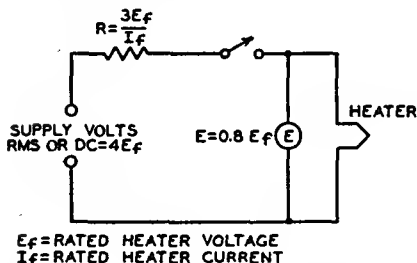

Fig. 94—Test circuit for measuring heater warm-up time.
**Heater warm-up time** is defined as the time required for the voltage across the heater to reach 80 per cent of the rated value in the circuit shown in Fig. 94. The heater is placed in series with a resistance having a value 3 times the nominal heater operating resistance